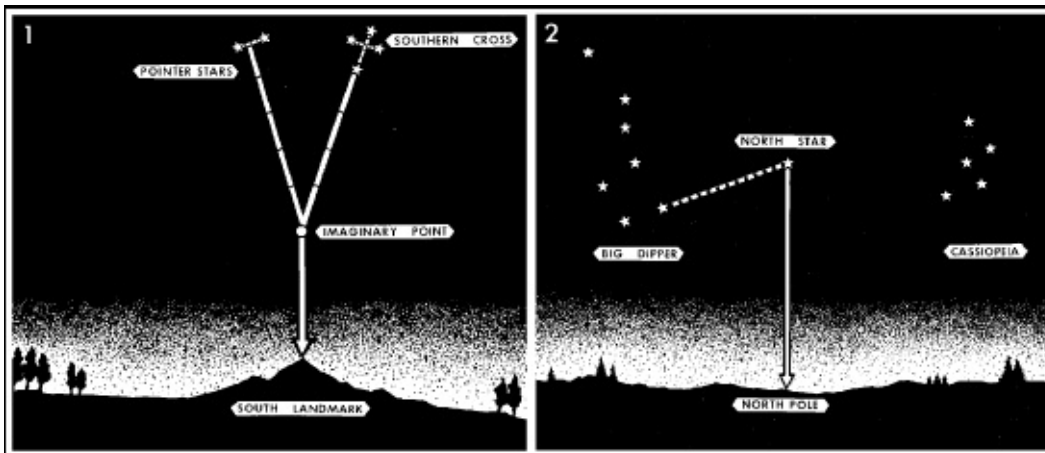

Figure 2-4. Stars
(6) Using the stars (**Figure 2-4**) the—